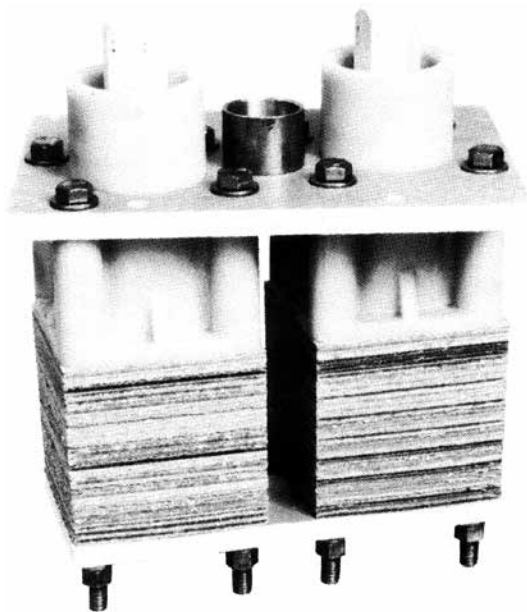

Figure 4. Assembled interrupter and stationary contacts.
1. Using a 1/2-inch thin wall socket, remove the vibrationproof hex nut that secures the movable contact assembly to the lift rod. Gently tap contact arm to remove contacts from the lift rod. See Figure 4.